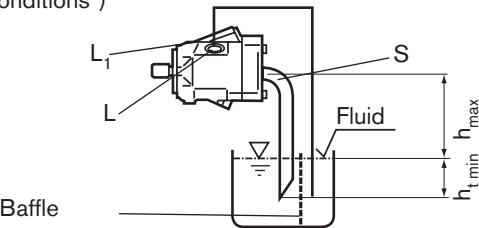

Fig. 4
b) If the min. fluid level is below the top of the pump: pipe " L " and " S " acc. to fig. 4, " L_1 " plugged (see also limit of conditions).
a) Mounting above the tank: see fig. 4. (see also "Limit of conditions")